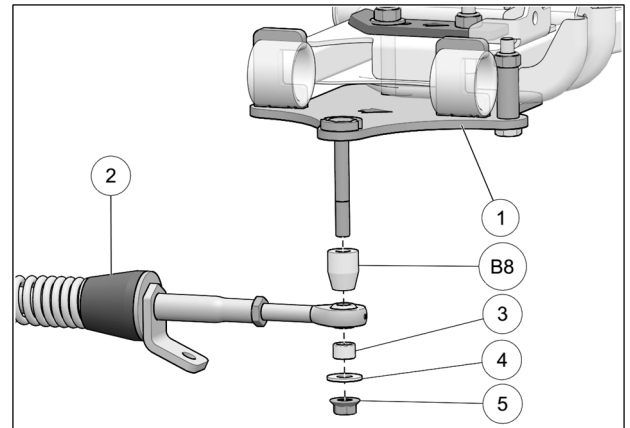

Fig. 11
10. Attach stabilizing rod (2) to anchor bracket (1), using the long spacer bushing (B8), the short spacer bushing (3), flat washer (4) and nut (5). Torque to 70 N•m [52 lb•ft]. See Fig. 11